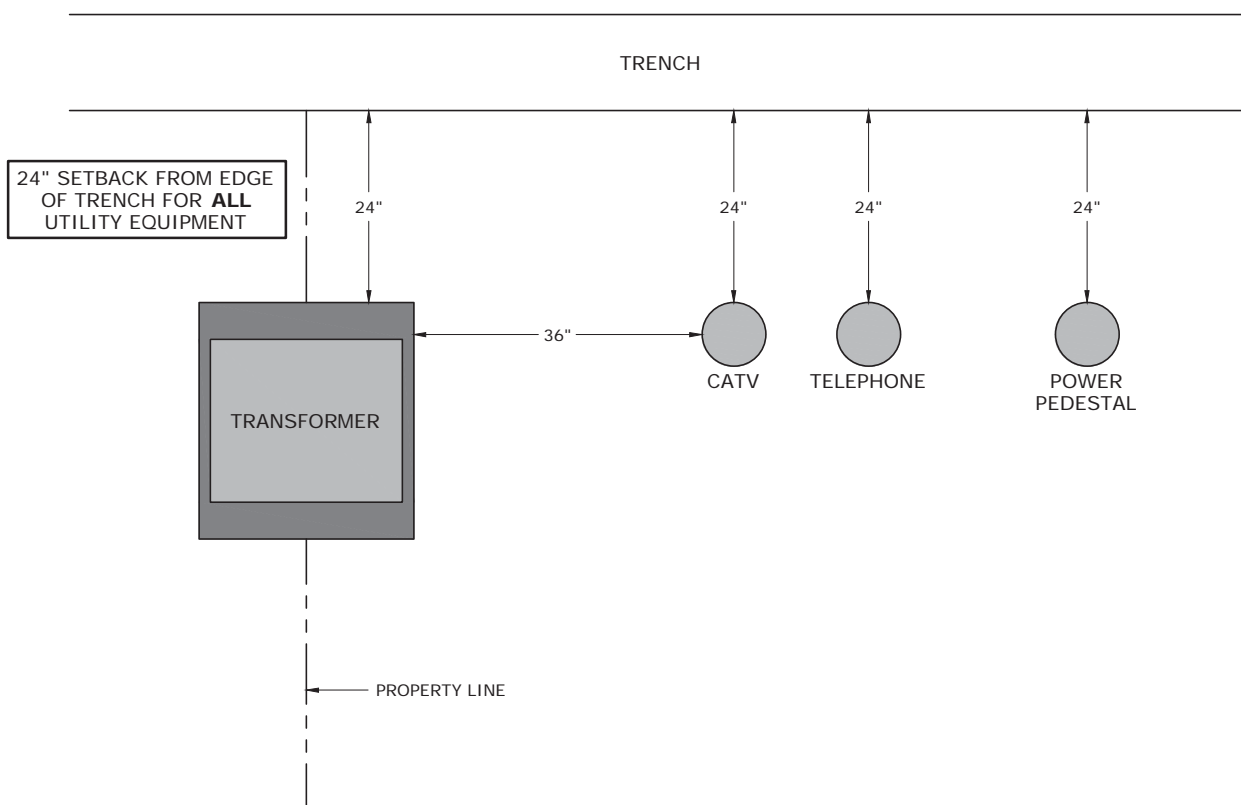

FIGURE 1
4. PEDESTAL LOCATIONS MUST FOLLOW THE GUIDELINES SET FORTH IN FIGURE 1.